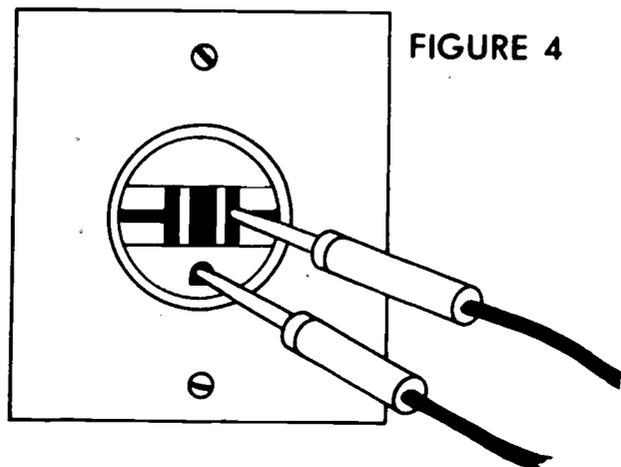

FIGURE 4
- I. Read from each ungrounded conductor to the grounding conductor (Figure 4)